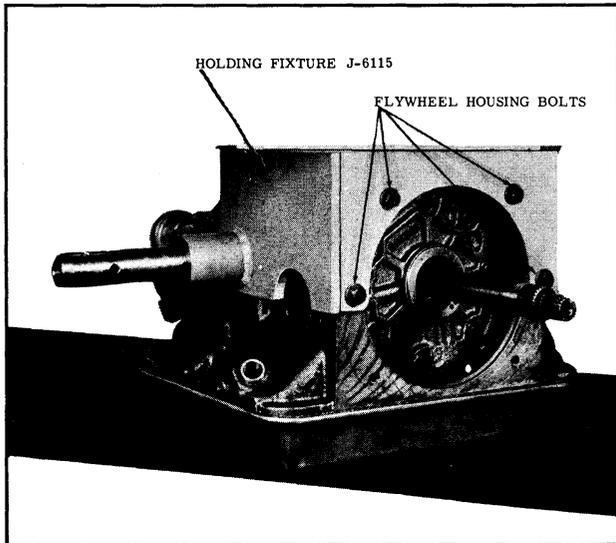

Fig. 3-26 Transmission Holding Fixture
4. Bolt holding fixture J-6115 to front of transmission with 4 flywheel housing bolts. (See Fig. 3-26)